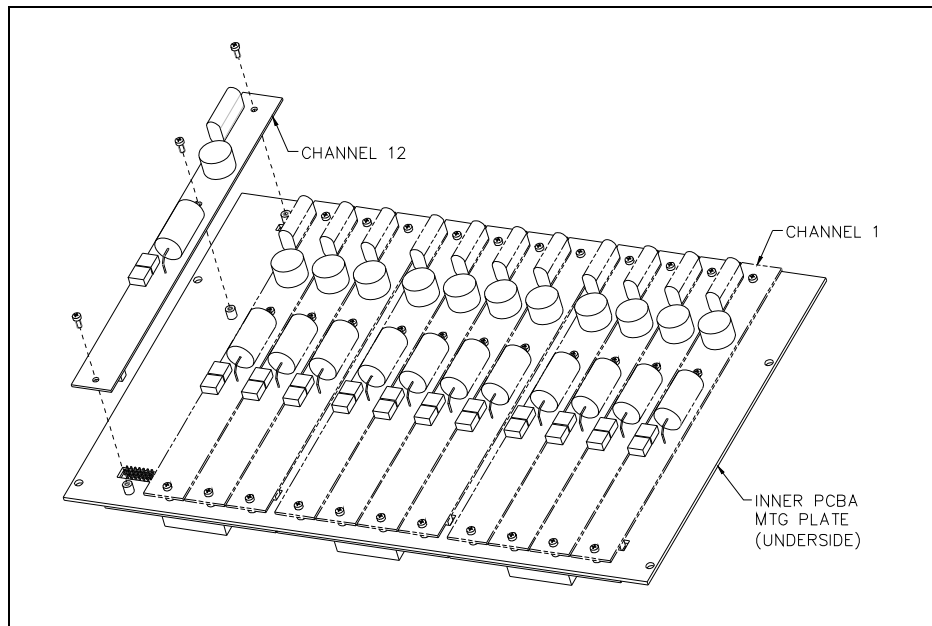

Figure 17.
8. Fasten the CDC board to the inner PCBA mounting plate using the three supplied #4-40 screws. See Figure 17.